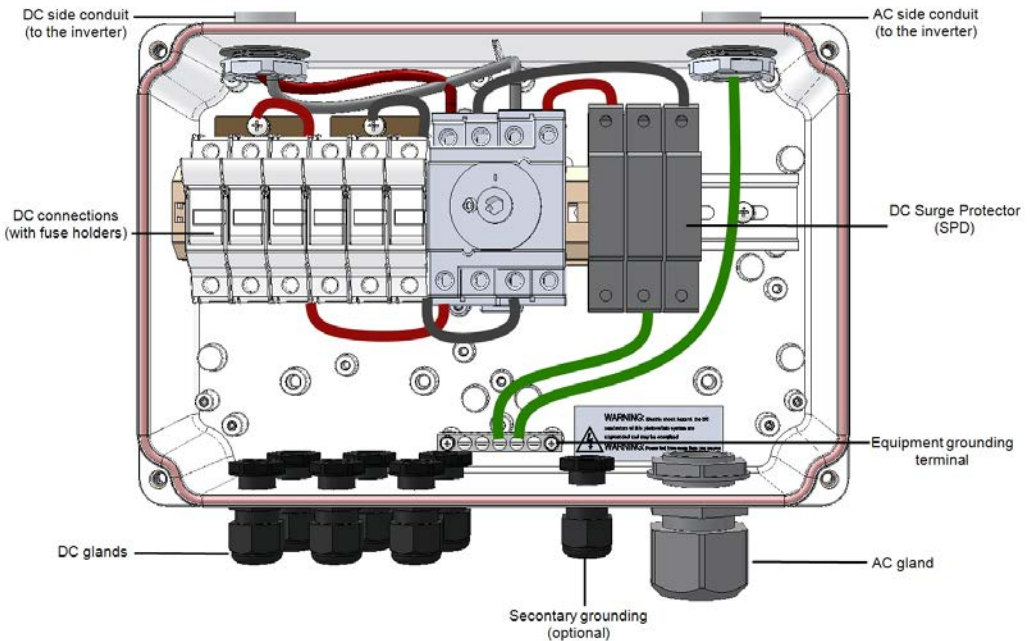

Figure 28: Inside the DC Safety Unit with fuses
6. Open the AC cable gland and insert the cable through the gland (see *Figure 28*).